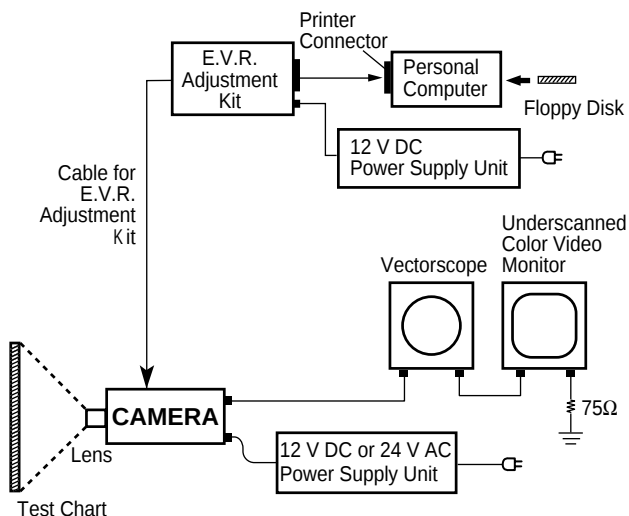

Fig. 3-1
- The Fig. 3-1 shows the connection diagram for the Adjustment Procedure.
- Referring to Fig. 3-1, connect the E.V.R. Adjustment Kit to CN3 on the Sensor Board of the Camera using the Cable for E. V. R. Adjustment Kit.